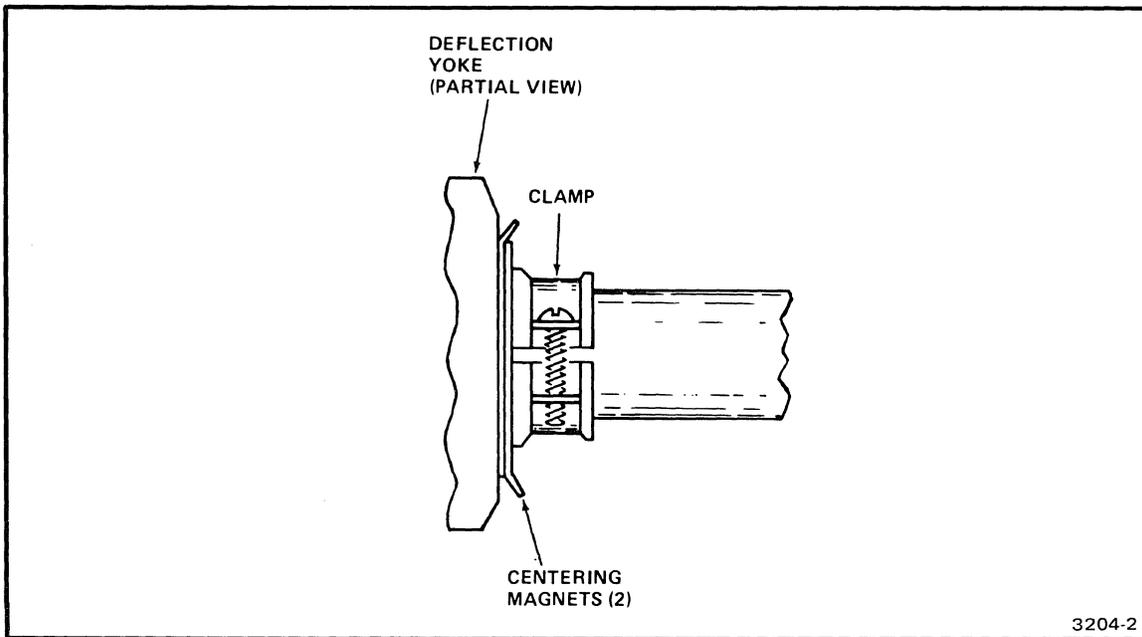

Figure 5-2. Partical View of CRT Neck/Deflection Yoke Centering Magnets.
6. Position the centering magnets for best overall centering of the raster within the active phosphor area of the CRT. (Reference Figure 5-2 for location of centering magnets.)